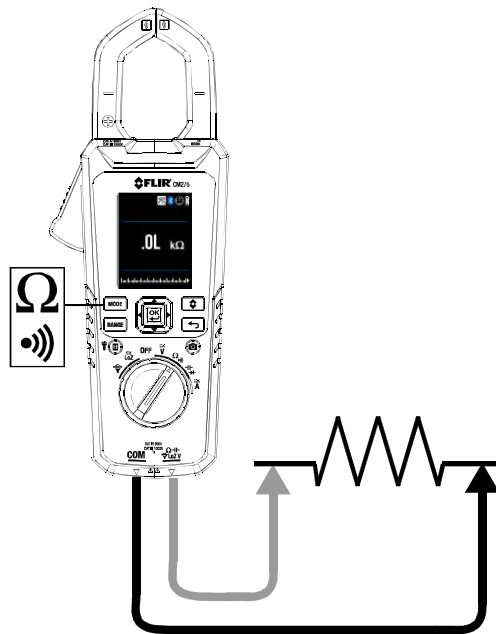

**Fig. 9-4** Voltage and Frequency Measurements
2. Insert the black probe lead into the negative COM terminal and the red probe lead into the positive terminal. Refer to Fig. 9-4 below.